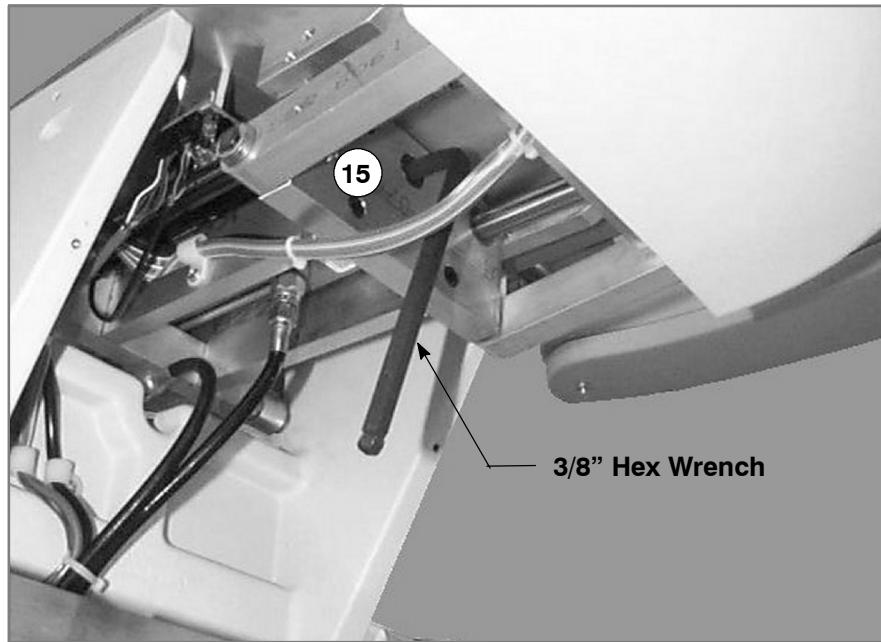

Figure 4-10. Removing the Socket Head Cap Screw from Cylinder Rod
15. Using a 3/8" hex wrench, remove the socket head cap screw from the end of the cylinder rod. See Figure 4-10.